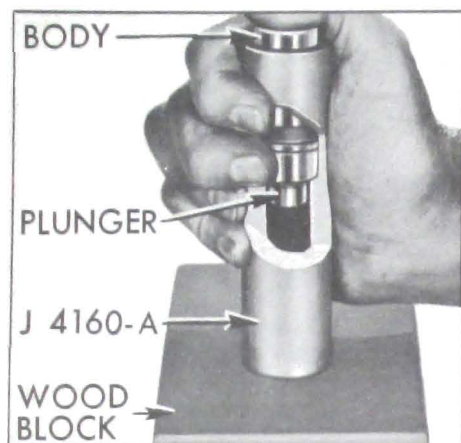

Figure 2-42—Removing Stuck Plunger with J-4160
a. If a plunger sticks in lifter body place lifter in large end of Plunger Remover J-4160, with plunger inward. While holding lifter with thumb, rap the open end of remover against a block of wood with just enough force to jar the plunger from body. See Figure 2-42.